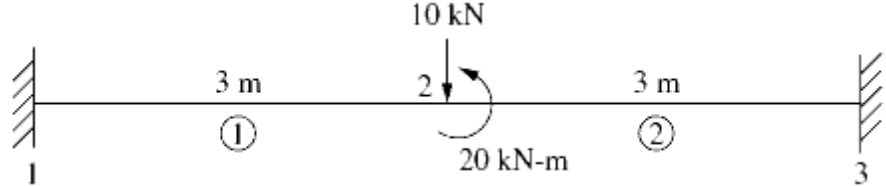

Figure 7
- (b) Determine the displacement and rotation under the force and moment located at the center of the beam shown in Figure 7. The beam has been discretized into the two elements shown in Figure 7. The beam is fixed at each end. A downward force of 10 kN and an applied moment of 20 kN-m act at the center of the beam. Let $E = 210 \text{ GPa}$ and $I = 4 \times 10^{-4} \text{ m}^4$ throughout the beam length. 07